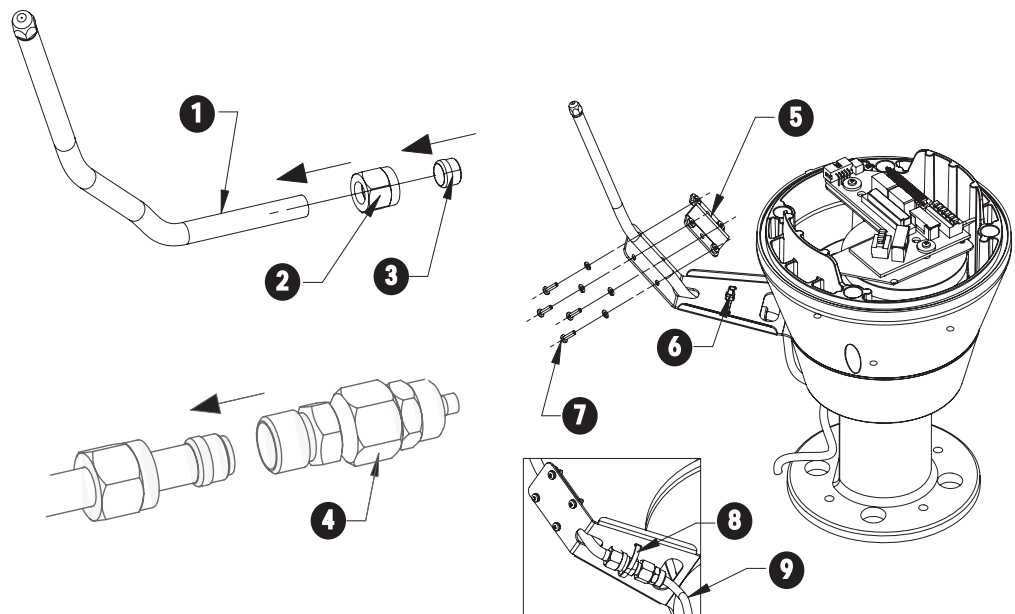

Fig. 5.2 Installing the Washer Pipe
- d. Lock the nut to the coupling (see *Figure 5.2*).